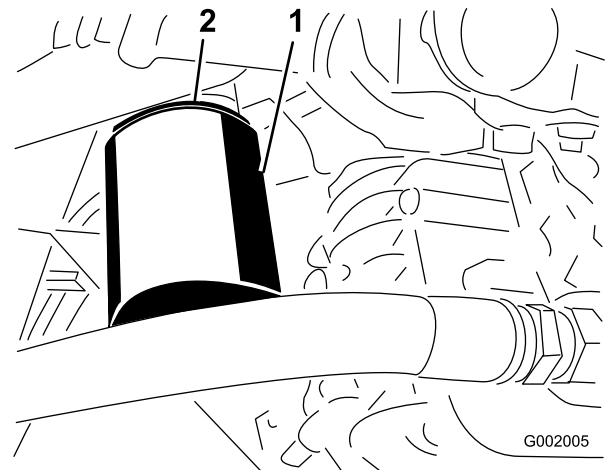

Figure 68
- Remove the filter (Figure 68).